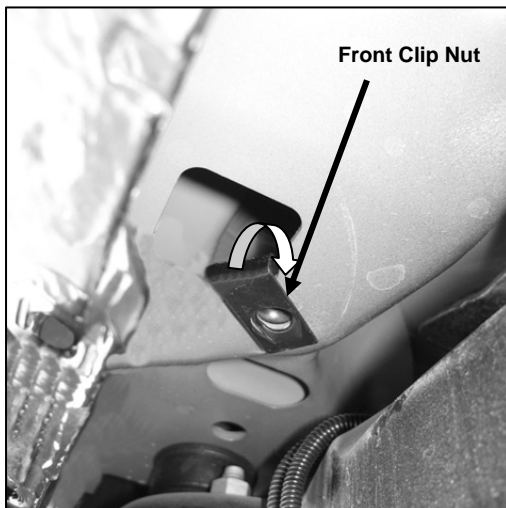

Figure 1
- 2.** From underside of vehicle, locate the two front factory holes on the driver side floor panel located by the front tire. With the threaded nut facing up, insert (1) 10mm Clip Nut through larger hole. Orient Clip Nut to engage into the smaller hole **(Figure 1)**.